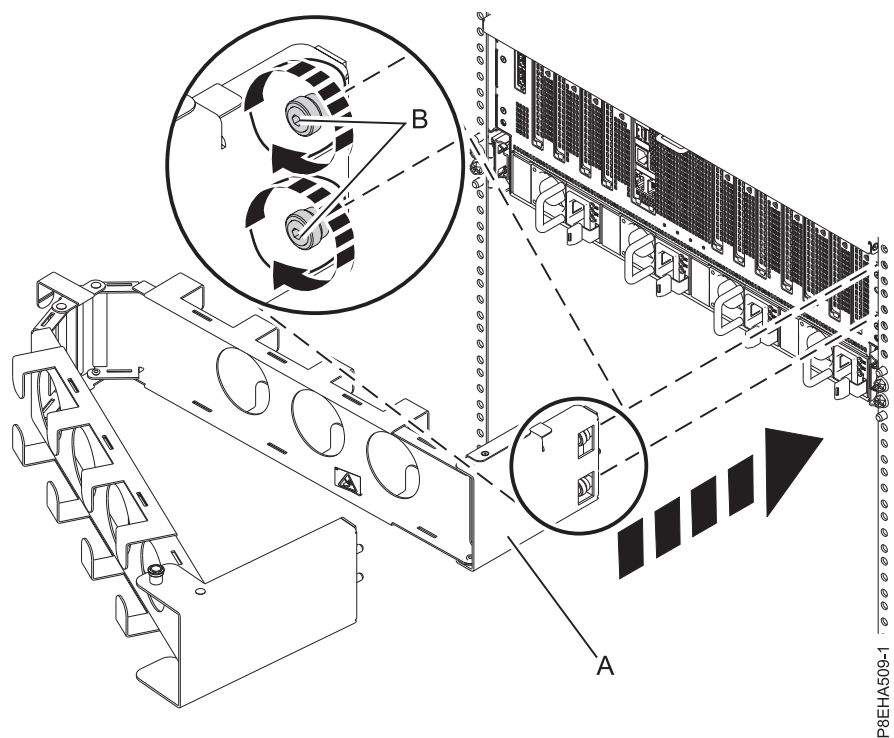

Figure 18. Attaching the inner plate to the system chassis
1. Attach the inner plate (**A**) to the system chassis by hand-tightening the two captive screws (**B**) through the threaded holes on the chassis, as shown in Figure 18 on page 18. Then use the T25 hex tool that was included with your system to tighten the bolts further.